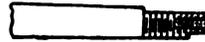

Fig 4
Examine the spindle of the pedal, and notice whether it projects through the nut which adjusts the bearings. If it does so to the extent of not less than  $\frac{1}{16}$  in., it will save trouble; if not, the adjusting nut must be turned thinner until it projects that amount. Take out the spindle and file a second flat on the small end, opposite the existing one, extending about  $\frac{1}{8}$  in. Drill a hole about  $\frac{3}{8}$  in. deep up the spindle, and tap it  $\frac{1}{8}$  in. This is shown in Fig. 4.
The claw which moves the commutator arm is shown in Fig. 9—(1) plan from above; (2) plan from below; (3) side elevation and (4) end elevation. *B* is vulcanite, to which are riveted the brass pieces *A* and *C*. Copper wire makes excellent rivets, which should be countersunk at each end. The piece *A* is rigidly attached to the lower end of the vane spindle (see Fig. 4), and has an oval hole for it to fit into. A hole is turned in the vulcanite *B* to allow a  $\frac{1}{8}$  in. screw, with a large thin head, to fix *A* to the spindle, and not project beyond the surface of *B*. The piece *C* has a slot filed to fit easily